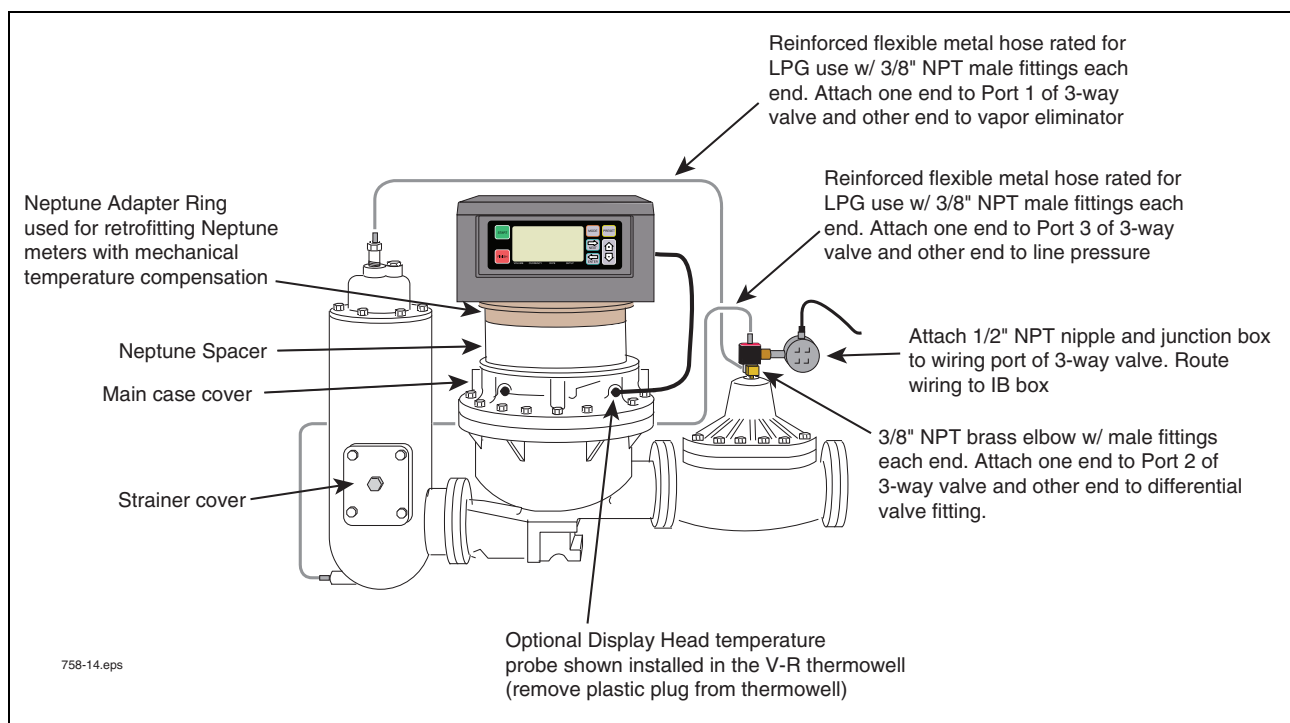

Figure 14. Example Of Temperature Probe Installation In Main Case Cover
5. Remove the mechanical meter register and the (4) temperature compensator bolts. Take out the compensator gear assembly.
7. Set the V-R Adapter (P/N 333746-001) on top of the spacer and mount it using (4) bolts (P/N 510500-325) with lockwashers [see Figure 14].